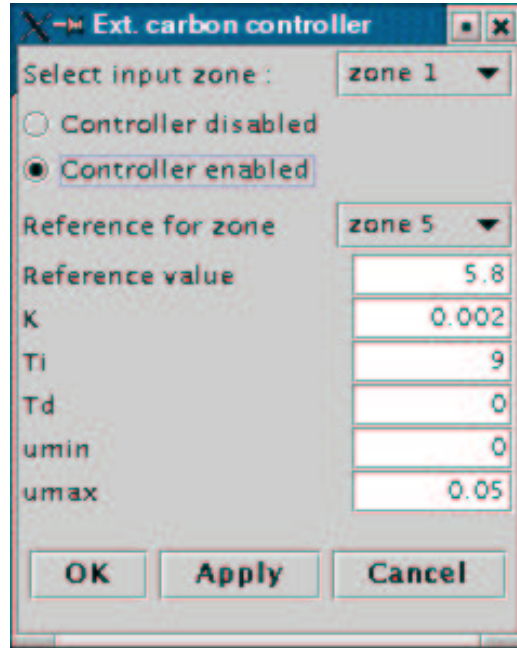

Figure 5: The Ext. carbon controller dialog
27. The carbon controller is a PID controller that controls the NO_3^- concentration in an arbitrary anoxic zone by changing the flow rate of external carbon. By selecting *Ext. carbon controller* from the *Controllers* menu the dialog shown in Figure 5 is displayed. In this dialog it is possible to set in which zone the carbon should be added, in which zone the NO_3^- concentration should be controlled, the reference NO_3^- value and the PID parameters. It is also possible to enable/disable the controller. In the latter case the carbon flow rate can be set manually in the *Carbon* dialog.